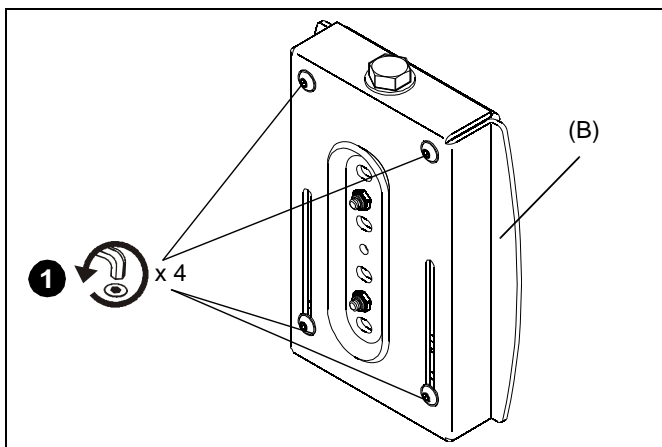

Figure 1
1. Verify mounting brackets on wall bracket (B) can move freely. If necessary, loosen four button head cap screws. (See Figure 1)